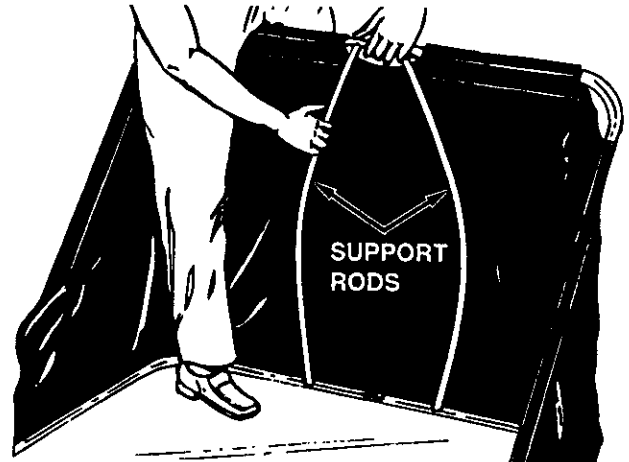

FIGURE 15
- Assemble the two hopper support rods as shown in figure 15. Place end of rod into hole in upper hopper tube and bend rod just enough to fit bottom end of rod into hole in bottom hopper tube.